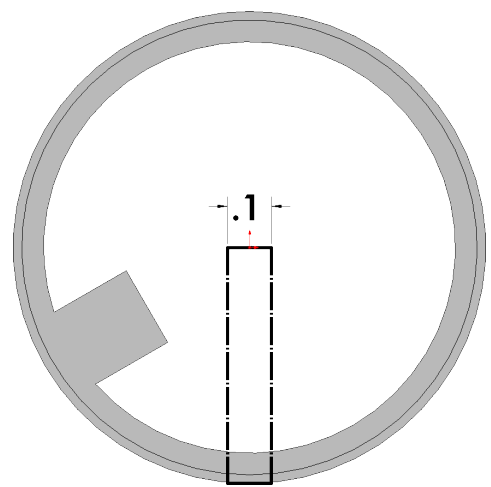

Fig. 72
Step 10. Click **Smart Dimension**  (S) on the Sketch toolbar.
Step 11. Dimension rectangle **.1**, **Fig. 72**.